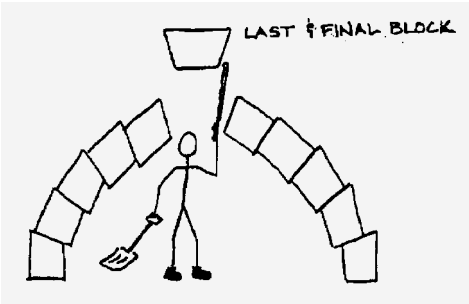

Figure 11-17
- 7. The last block should be cut as a tapered “cork.” It is lowered to the person inside the igloo, who can cut the sides until it drops in snugly as shown in figure 11-17.